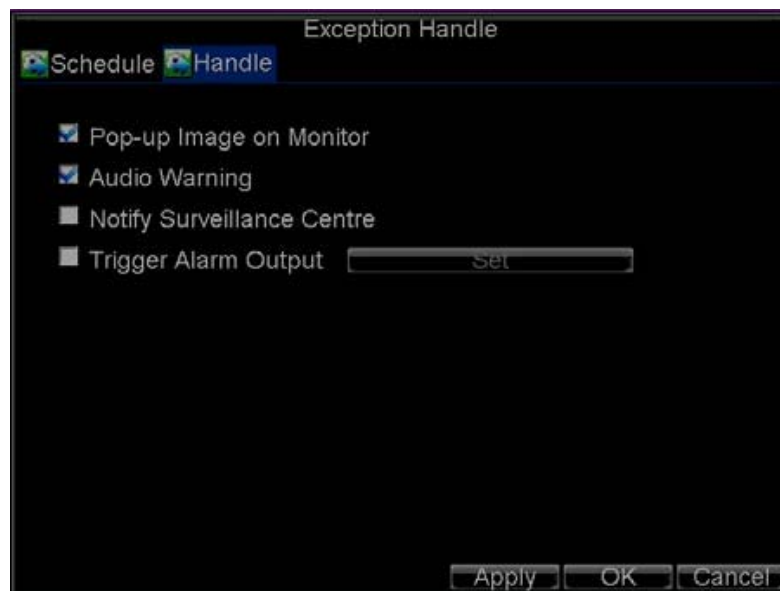

Figure 9.19. Exception Handle Menu
- 5) Click the **Handle** button to enter the Exception Handle menu, shown in Figure 9.19.